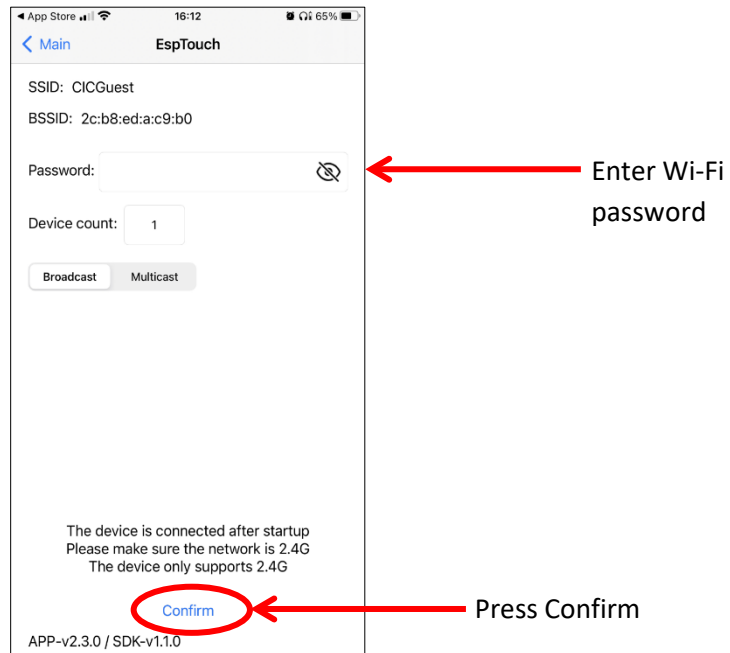

Figure 15: Connect to Wi-Fi in ESPTouch
- In the ESPTOUCH app, your phone needs to be connected to the same Wi-Fi Network you intend to use on the DVR. Input the Wi-Fi password and hit **Confirm**. See *Figure 15*.